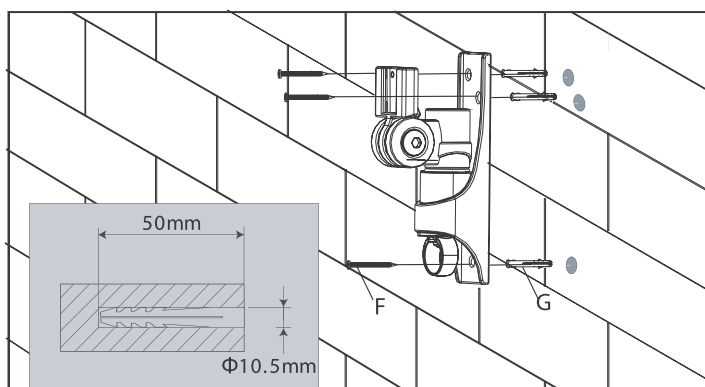

Fig 2
Wall must safely support at least four times the combined load of the equipment and all attached hardware and components. Put the wall mount flatly in the installing position, using it as template. Mark holes on the wall. Use a 10.5mm drill bit pre-drill three 50mm deep holes deep, staying at least 1" from masonry edges. Do not drill into mortar joints. Drill holes using a standard drill at low speed. **DO NOT USE** a hammer drill., Insert the wall anchor(G) into the mounting holes, and lightly tap them flush to the wall with a hammer. Securely mount the wall plate with supplied Long bolts(F). As shown in Fig2.